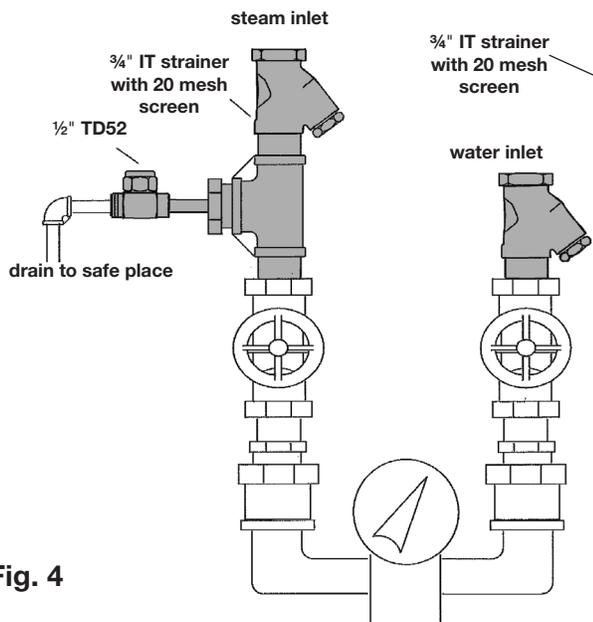

Fig. 4
Installation kit is purchased separately. Installation kit consist of (2) strainers, (1) steam trap, (1) Tee, (2) 3/4" x 3" Nipple, (1) 3/4" x 1/2" Reduction Bell, (1) 1/2" x 3" Nipple and Installation and Maintenance Instructions. See Fig. 4 (shaded area only)